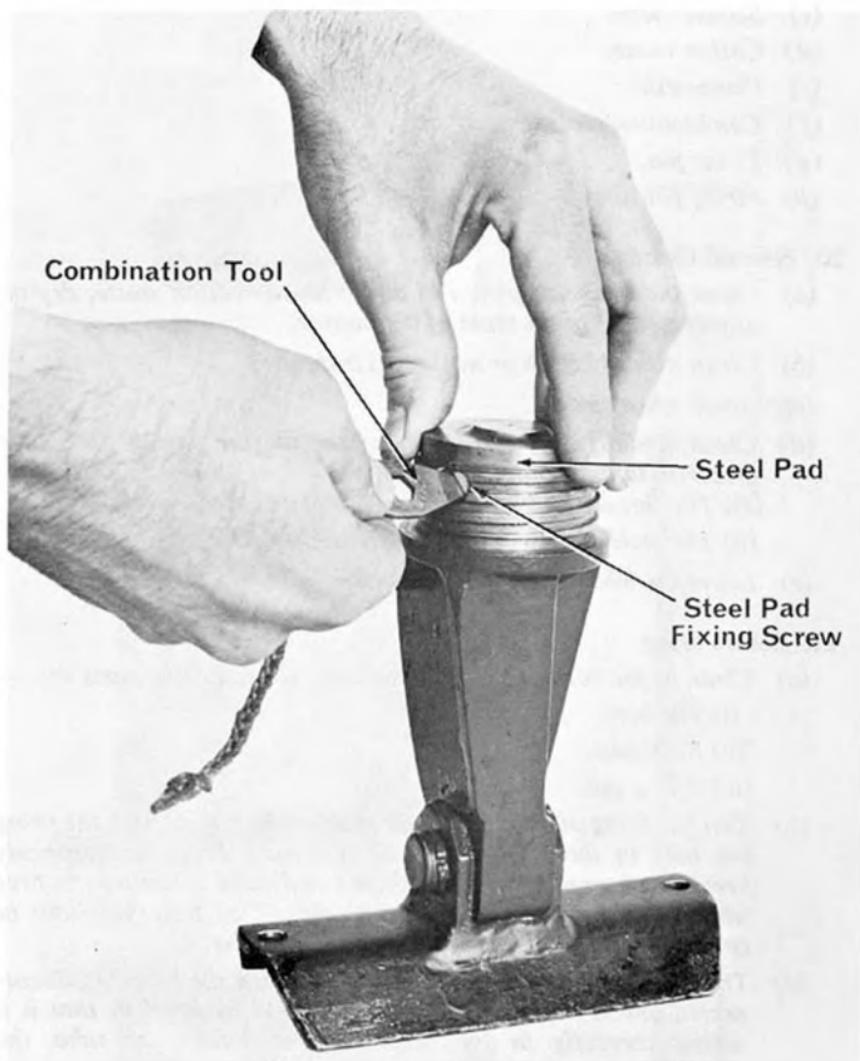

Fig 3.—Slackening the firing hole bush fixing screw
- (c) Using the combination tool, a screwdriver or a small coin, unscrew the steel pad fixing screw by two turns only (see Fig 3).